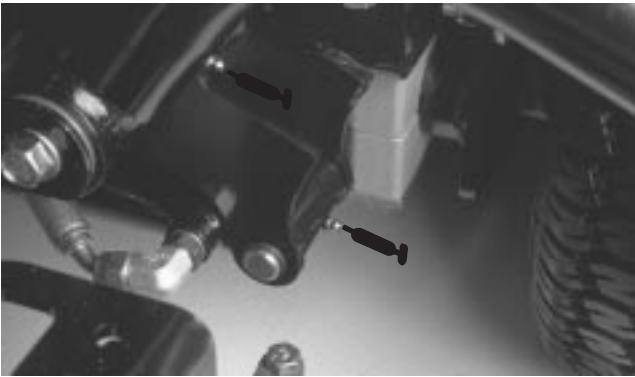
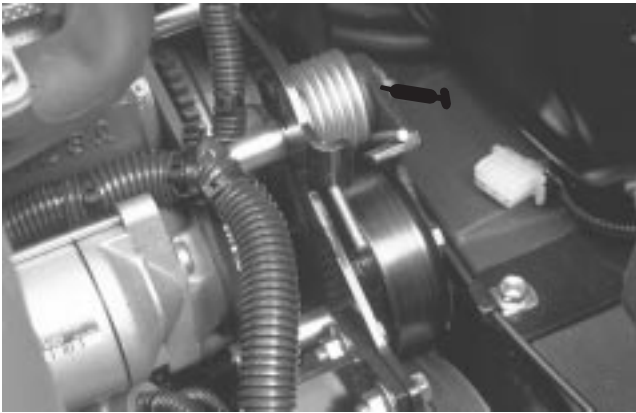

Figure 48
Figure 52
The traction unit bearings and bushings that must be lubricated are: Rear cutting unit pivot (Fig. 43), Front cutting unit pivot (Fig. 44), SideWinder cylinder ends (2) (Model 03201 only) (Fig. 45), Steering pivot (Fig. 46), Rear lift arm pivot and lift cylinder (2) (Fig. 47), Left front lift arm pivot and lift cylinder (2) (Fig. 48), Right front lift arm pivot and lift cylinder (2) (Fig. 49), Neutral adjust mechanism (Fig. 50), Mow/Transport slide (Fig. 51), Belt tension pivot (Fig. 52) Steering cylinder (Fig. 53).